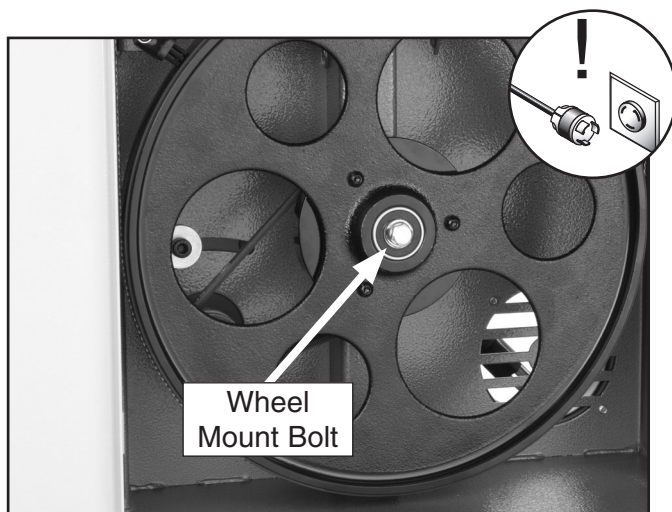

Figure 59. Wheel mount bolt.
4. Unthread the wheel mount bolt shown in **Figure 59** and slide the lower wheel off of the bearing shaft.